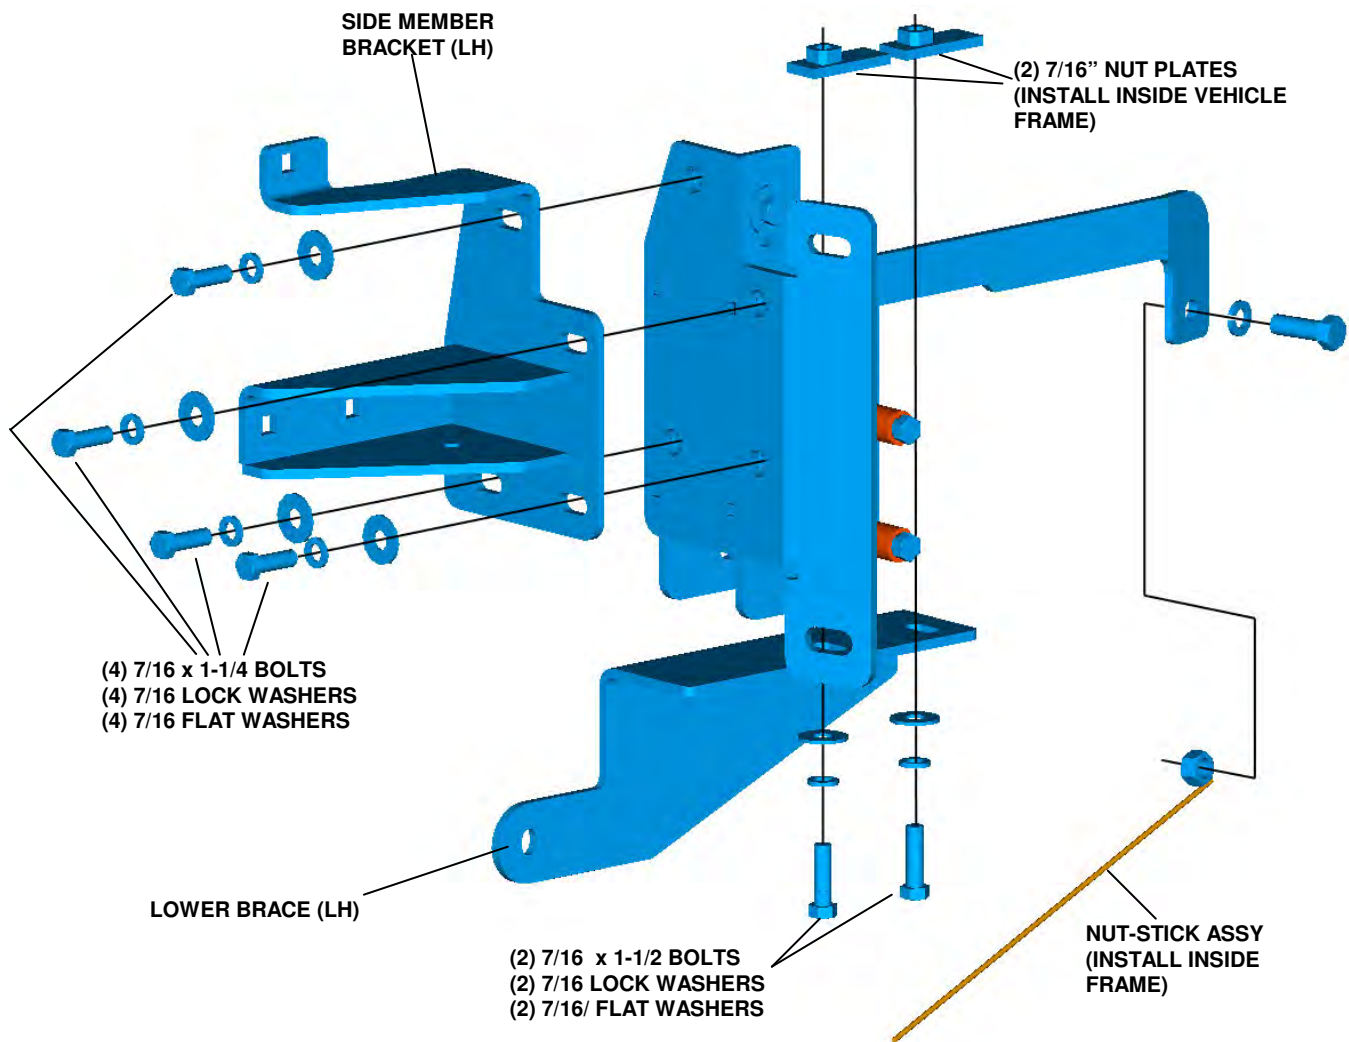

Figure 10 Left Hand Lower Brace and Side Member Bracket
- 14.** Insert a 7/16" Nut Plate into the frame (long leg first, towards rear of vehicle) and install the correct Lower Brace. Use a 7/16" x 1-1/2" bolt, lock washer and flat washer through the Brace and frame, into the Nut Plate. Repeat for each Brace slot. Do not tighten at this time. See **Figure 10**
19. Install the LH and RH Side Member Brackets. Use 7/16 x 1-1/4" bolts, lock washers and flat washers through the Side Member Brackets into the threaded holes in the Frame Extensions. Center the Brackets on the vehicle and adjust them so there is 32-1/2" between the inner faces (where the Side Members will be installed). Tighten the hardware before proceeding. See **Figure 10**